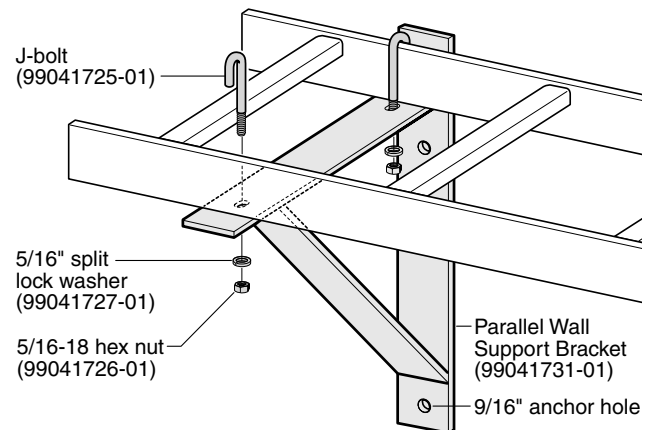

Figure 1
1. Place the Parallel Cable Runway Wall Support bracket on the wall at the desired location and mark the required anchor hole locations. (Figure 1)
4. Set the Cable Runway Ladder on top of the bracket. Insert the J-bolts through the slots in the top of the bracket so that the hook of the J-bolt rests on top of the Cable Runway Ladder rail. Fasten with a 5/16" split lock washer and 5/16-18 hex nut. (Figure 1)